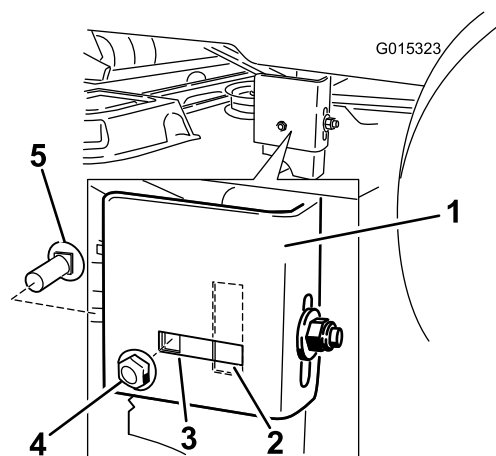

Figure 50
8. Check if the side carriage bolt is in the fixed or slotted position (Figure 50).
9. If the side carriage bolt is in the fixed position, remove the side carriage bolt and side locking nut from the fixed position and install it into the slotted adjustment position (Figure 50).
10. Loosen the rear locking nut on the hanger bracket (Figure 50).